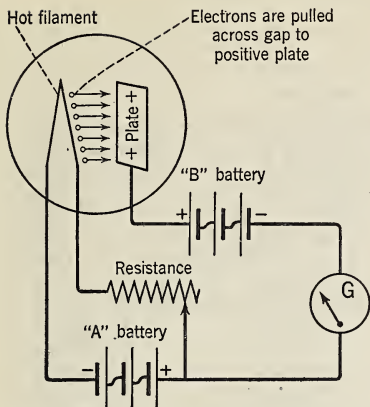

FIG. 773. The positive charge on the plate "pulls" electrons.
2. If we increase the positive voltage on the plate, it attracts electrons more strongly. The device used in this manner for charging storage batteries was called a *Fleming valve*. (See Fig. 773.)